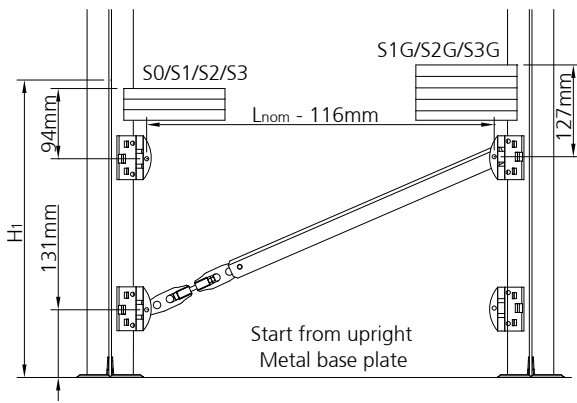
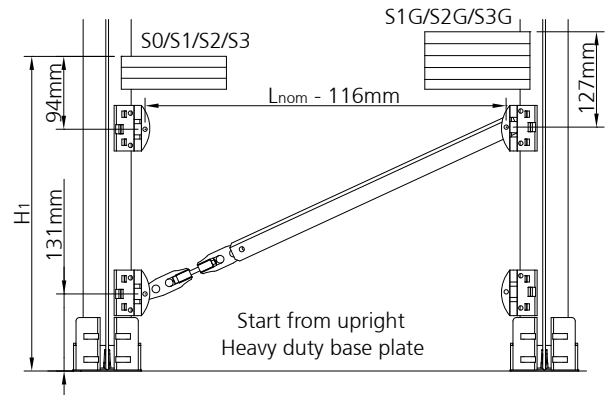

Fig. 6
Fig. 7
- start from upright (Fig. 6, Fig. 7 - Tab. 5);